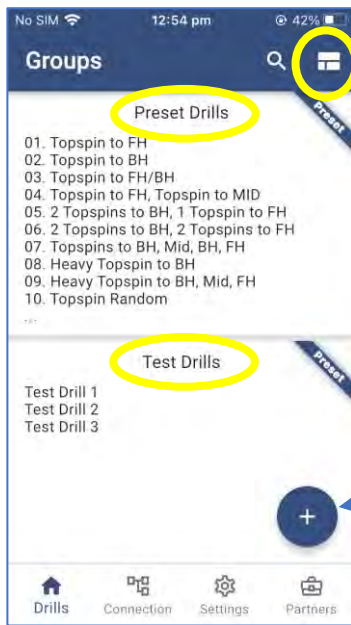

Figure 3-69
The Applications comes with 2 pre-loaded Groups, one is called **Preset Drills**, and the other is called **Test Drills**. (Figure 3-69)
1. From the main Drills screen, push the Drill/Group toggle button at the top right corner of the display to switch to the main Groups screen. (Figure 3-69)
1. Push the Drill/Group toggle button from the Drills main screen to get to the Group screen. (Figure 3-69)